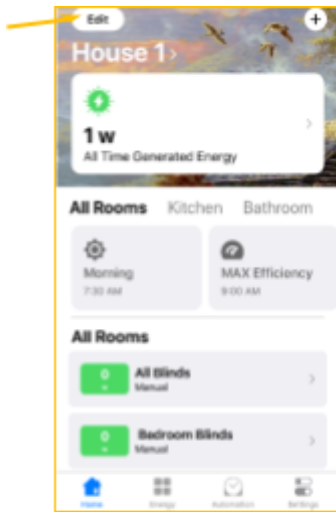

Figure 43
**10.10.1.** Click **Edit** in the top left corner to start (Fig. 43).